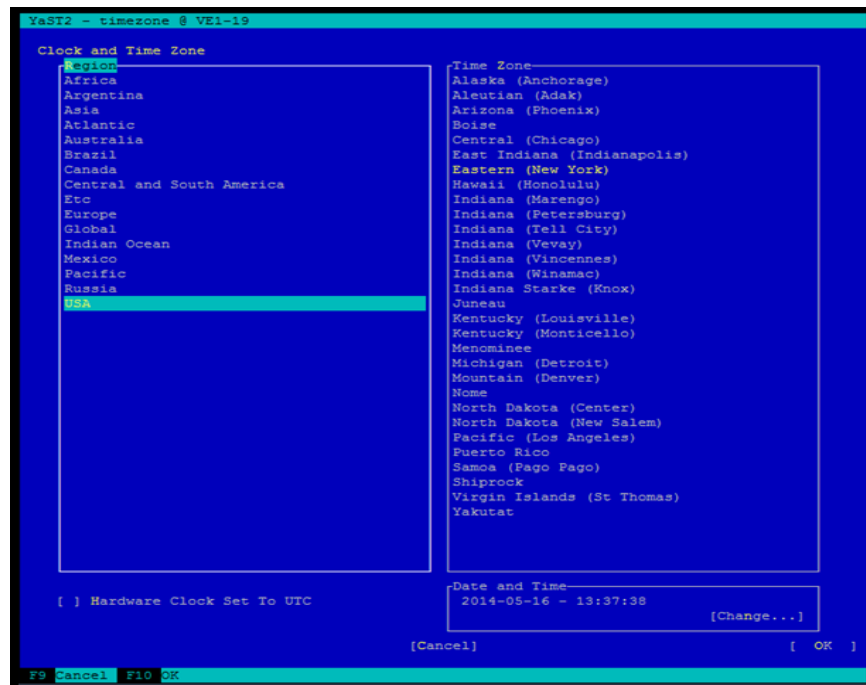
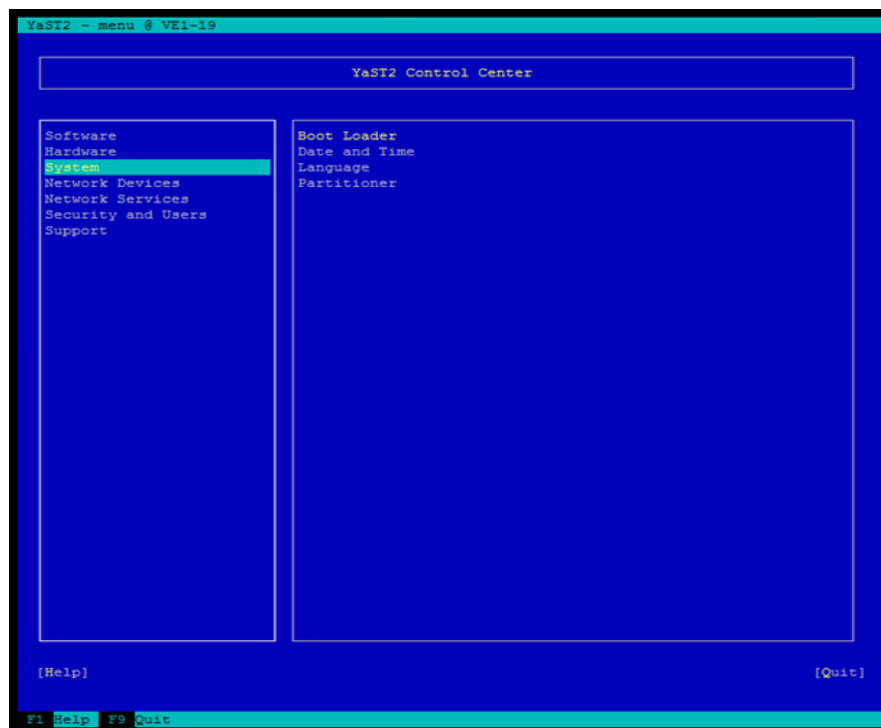

Figure 177 Clock and Time Zone screen
Figure 178 YaST2 Control Center
8. In the Clock and Time Zone screen, make the desired changes, as shown in Figure 177 on page 133. When you are done, use **Tab**, **Alt-O**, or **F10** for **OK**. This step takes you to the original page of the YaST2 Tool, as shown in Figure 178 on page 133.